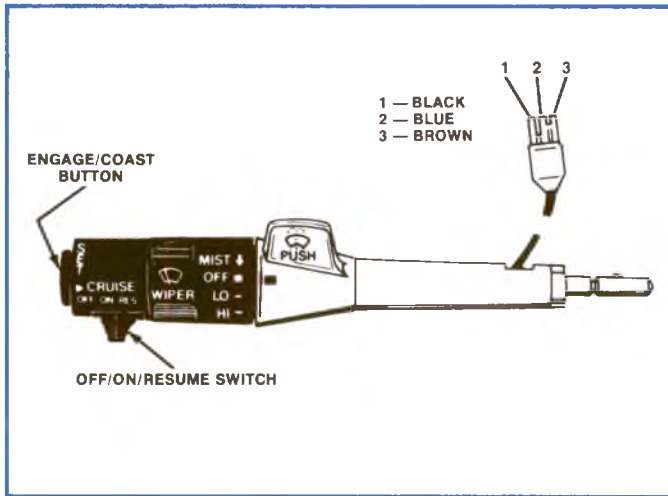

Figure 2-7, Typical Resume Engage Switch Wiring.
Step 7 Check the electrical operation of the engagement switch (figure 2-7). Use the Switch Function Table or replace the engagement switch with a *known* good switch. If no defect is found proceed to Step 8.